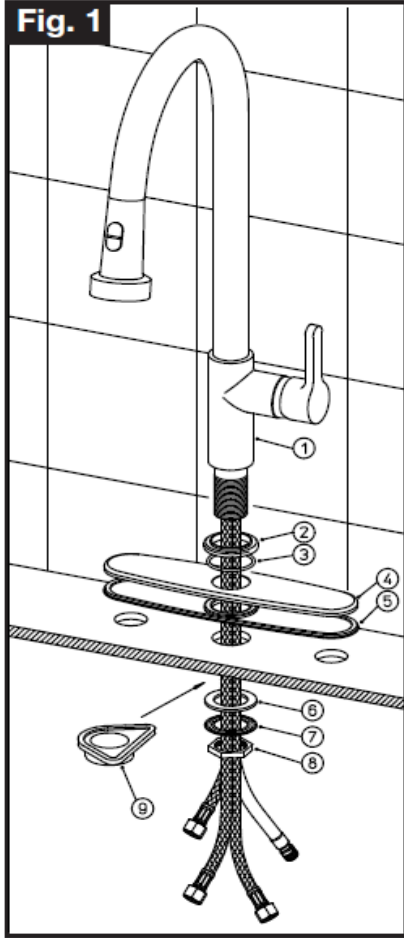

Fig. 2
(Fig.2) Then connect the supply tubes (5): the left one to the hot water supply and the right supply tube to the cold water supply. Connect the spray hose (1) to the exit tube (3) placing in between the washer (2).